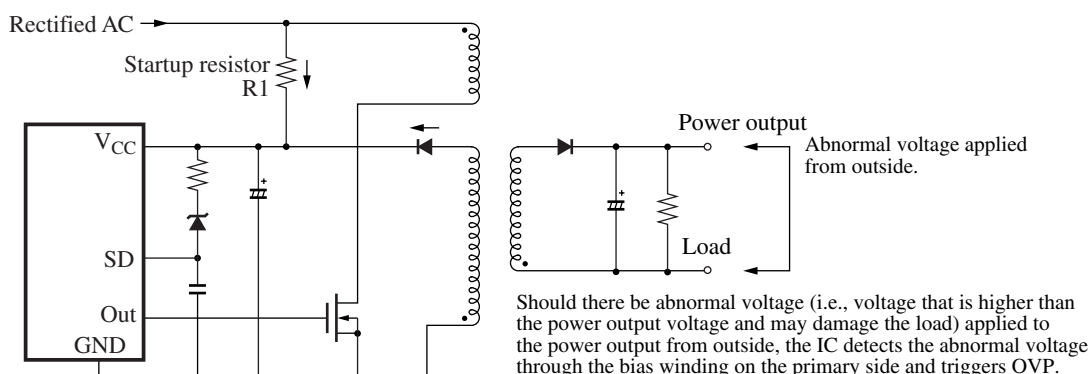

Figure 22
OVP stands for overvoltage protection. The overvoltage protection circuit is a self-diagnostic function that shuts down the power supply to protect the load if a voltage that is significantly and abnormally higher than the normal output voltage occurs in the power supply output, due to, for example, a malfunction in the control system or an abnormal voltage applied externally. (Refer to figure 22.)
- 1) If, as a result of an abnormality in the power supply output, the voltage input to the  $V_{CC}$  pin exceeds the threshold value (20.5 V typical), the IC internal reference voltage is shut down, and all control operation is stopped. The IC then holds this state. If latching at a voltage lower than the threshold value is required, connect a Zener diode between the  $V_{CC}$  and SD pins as shown in figure 22 and take method 2) below to set the voltage.